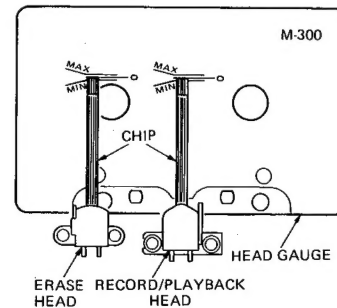

Fig. 2
- Set the unit in the playback mode and place the adjustment chip on the head gauge as shown in the Fig. 2.